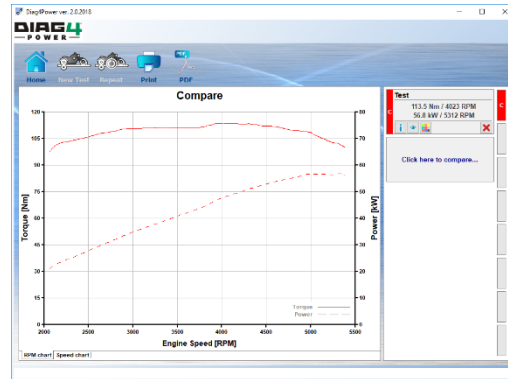

Fig. 18 – Parameters of maximum engine power.
- Speed characteristics of the torque and power with the parameters of the maximum engine power achieved in kW and the rotational torque in Nm appear on the display (see Fig. 18).